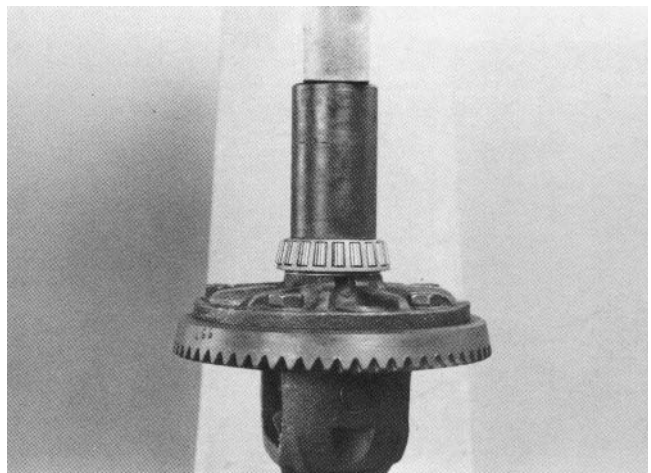

Figure 51
17. When installing new differential bearings, reuse the original shims or use new shims of the same thickness. Press the bearing onto the differential case. If a new differential case is being installed, start with a .020 inch pack of shims under each differential bearing (Fig. 51).